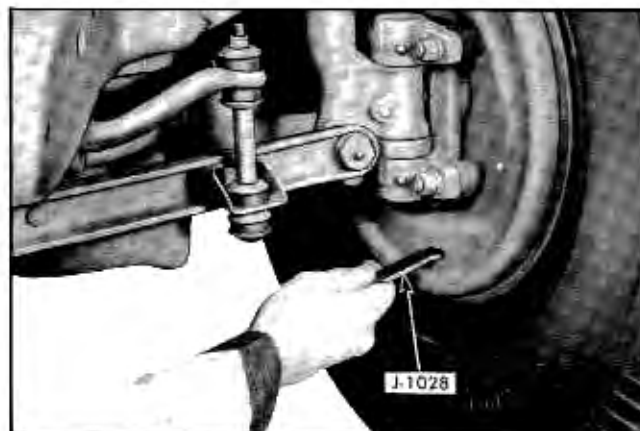

Fig. 5-7 Expanding Adjusting Screw
5. Insert screwdriver or special tool J-1028 in slot of support assembly until it engages star wheel on adjusting screw and move outer end of tool upward to expand brake shoes (Fig. 5-7). Expand until the car wheel can just be turned by hand, then back off adjusting screw 14 notches. After completing adjustment, check to see that wheel turns freely without drag. It may be necessary to tap support assembly to permit shoes to centralize before brake will be free.